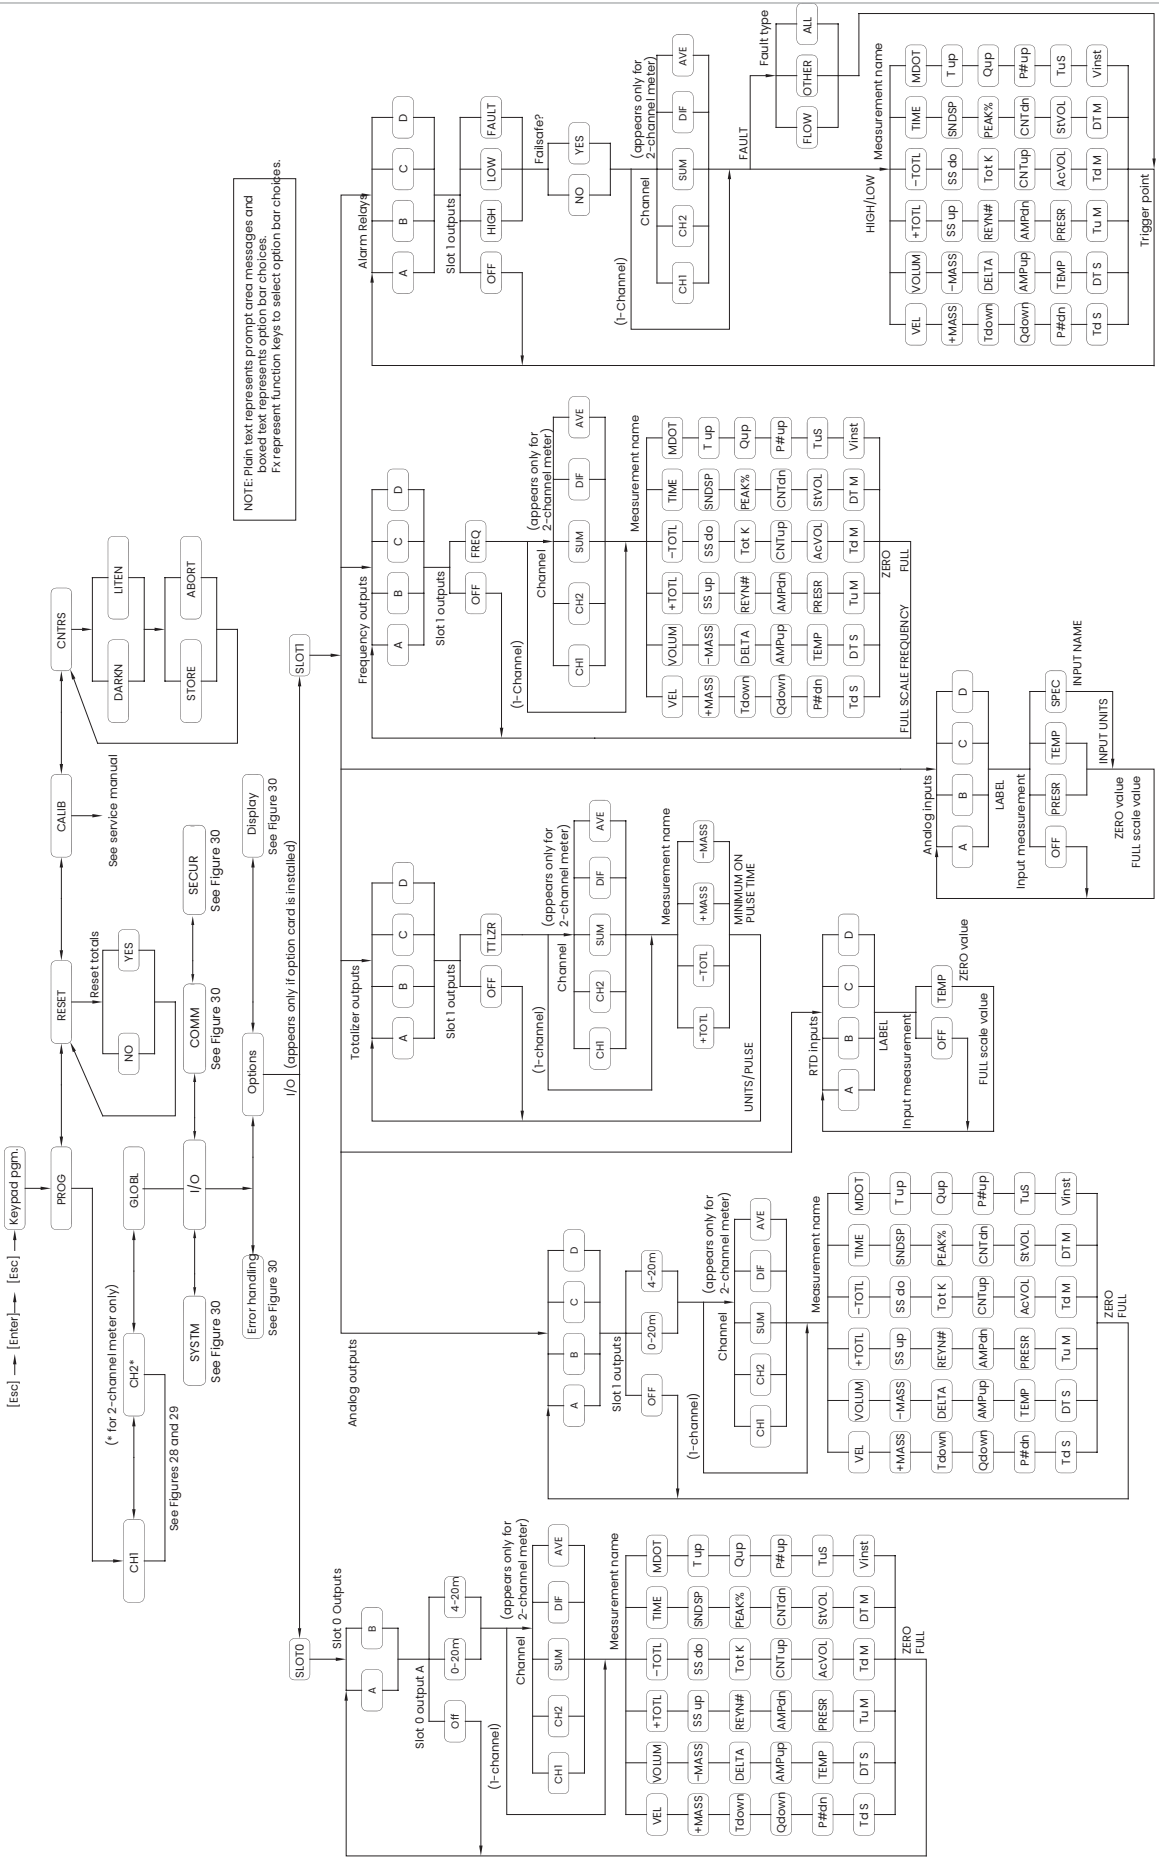

Figure 31: PROG > GLOBL > I/O > OPTIONS menu
- *Figure 31 on page 43, "PROG > GLOBL > I/O > OPTIONS Menu"*